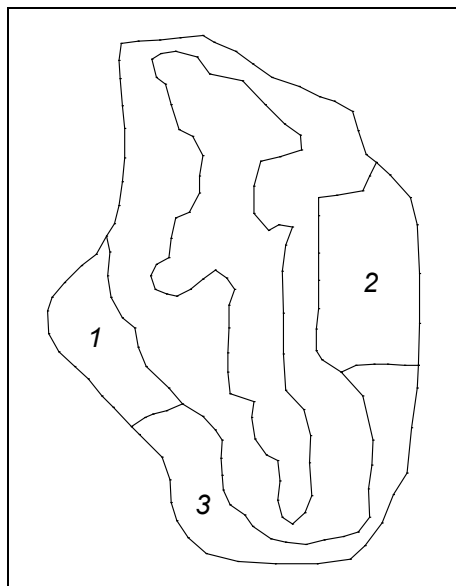

Figure 5. Polygons to be selected.
3. While holding the *Shift* key, select polygons 1 and 2 shown in Figure 5.
7. Double click on polygon 3 shown in Figure 5.